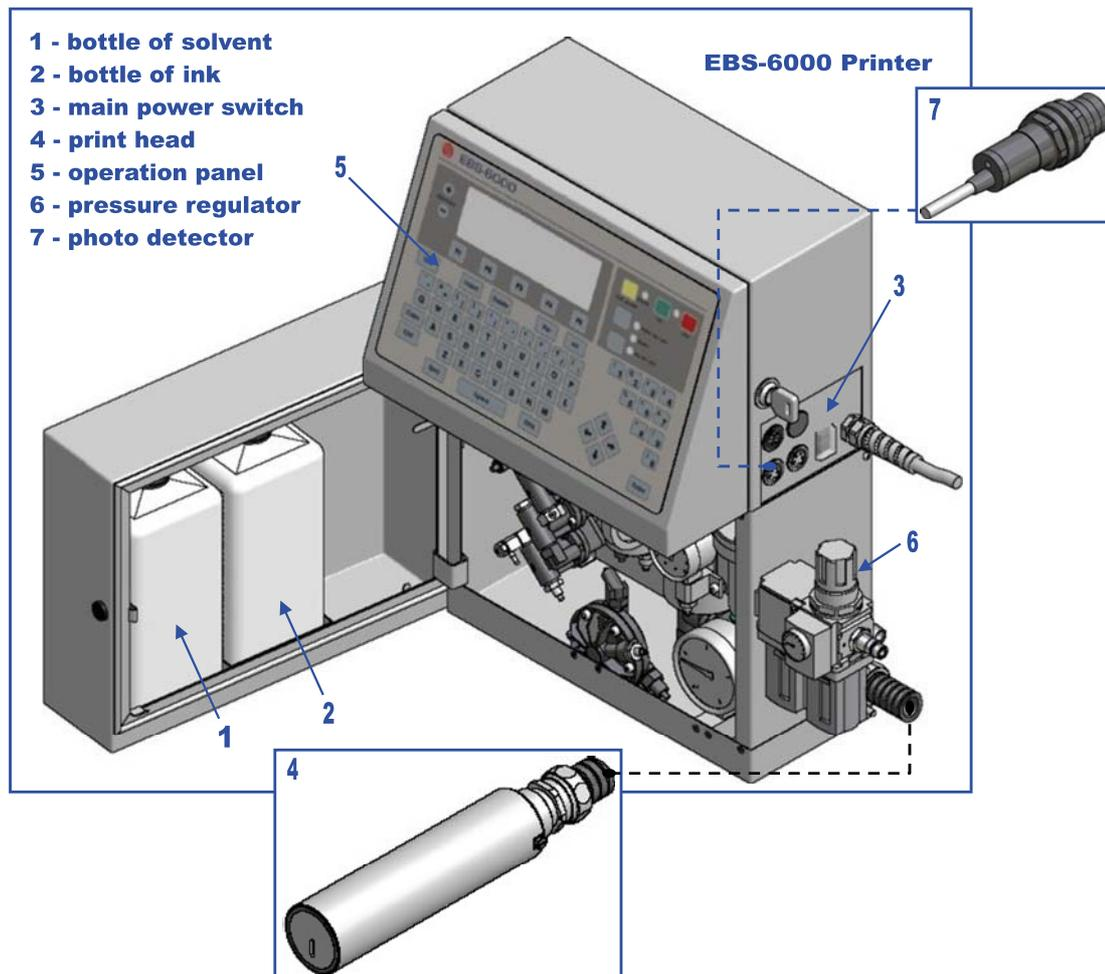

Fig. 2.1
Major components of the **EBS-6000** single-head printer are shown in *Fig. 2.1*.
Various versions of the pressure regulator (see item 6 in *Fig. 2.1*) are available and your regulator may differ from that shown in the figure.
The nominal pressure should be adjusted with a pressure regulator (see item 6 in Fig. 2.1) to ensure the proper operation of the printer.
The main (bi-stable) power switch, which separates electrically two power wires from the mains; it is located on the right-hand side of the unit next to the mains cord (see item 3 in Fig. 2.1). After the main power switch has been turned on, the printer triggers to the watch mode - the red lamp on the operation panel (see item 5 in Fig. 2.1) between the **ON** and **OFF** keys comes on.